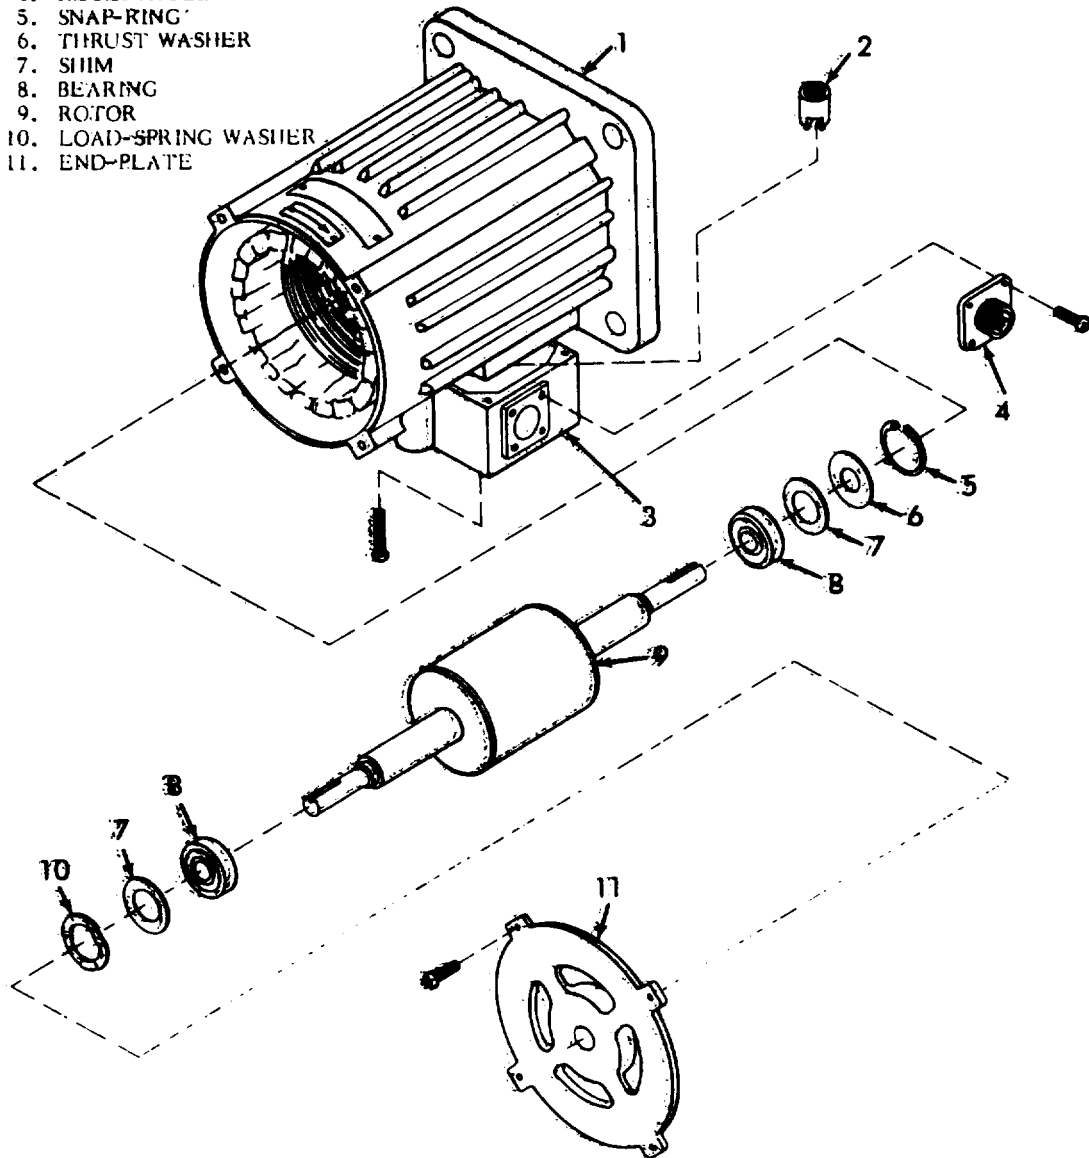

Figure 5-13. Fan Motor Details.
5.112. Removal (See figure 5-13).
- g. Unscrew but do not remove four screws attaching the baffle (figure 5-13) to the mounting assembly. Remove the baffle, with screws and spacers attached, as a unit.
a. Remove four screws from the 3-3/4-inch bolt diameter of the end plate (11, figure 5-13), and remove the end plate.
b. Withdraw the rotor (9) from the stator (1), and put aside until needed for assembly.
c. Using an arbor press or equivalent, press the bearings (8) out of the end plate and the stator, being careful to avoid cocking.
d. Remove four screws from the corners of the junction box (3, figure 5-13) and lift box away from stator.
f. Remove four screws from corners of connector, and remove connector from junction box (3).
Assemble the motor as directed in the following procedure (See figure 5-13).
b. Install receptacle (4, figure 5-13) in junction box (3), and secure with four screws.
c. Position junction box (3) on motor frame (stator); and secure with four screws through corners.
d. Install a bearing (8), shim (7) and washer (6), in that order, on the shorter shaft of the rotor (9). Insert the rotor into the stator (1), and guide the bearing into the bearing recess in the stator.
e. Place a bearing (8), shim (7) and load spring (10) in that order, over the longer shaft of the rotor (9). Carefully fit end-plate (11) over the assembly, guiding the bearing into the bearing recess.
f. Secure the end plate (11) to the stator (1) with four screws, tightened uniformly in increments. Attempt to turn shaft by hand. If shaft does not turn freely, check assembly of end plate on stator, and adjust if necessary.